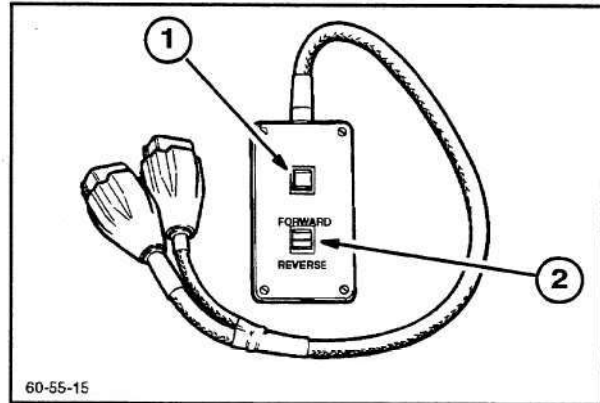
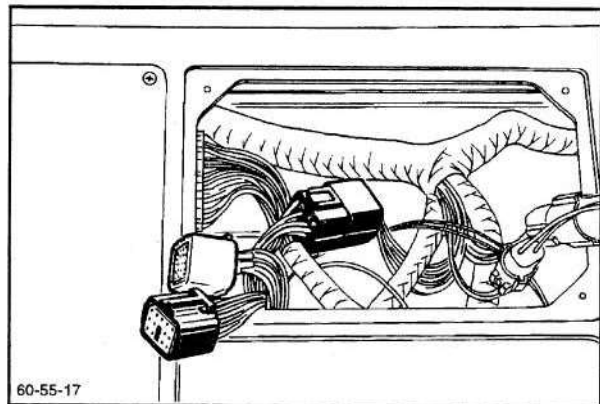

Figure 4-2-2
Figure 4-2-3
4. Locate and disconnect the cab main harness access connector, Figure 4-2-3, enabling the connection of the limp home harness connector, Figure 4-2-2, marked with 'HARNESS', into the cab main harness of the tractor, Figure 4-2-5.
5. Connect the other connector of the Limp Home harness, Figure 4-2-2, marked 'DIAGNOSTIC', to the 'WHITE' diagnostic plug, Figure 4-2-5.
7. Select forward or reverse by operating forward/reverse switch, (2) Figure 4-2-2, for 2 seconds on the Limp home harness control box. Return the switch to the center position.
8. Operate the momentary switch, (1) Figure 4-2-2, of the Limp Home Harness to move the vehicle. If necessary, depress the foot throttle to increase engine speed.